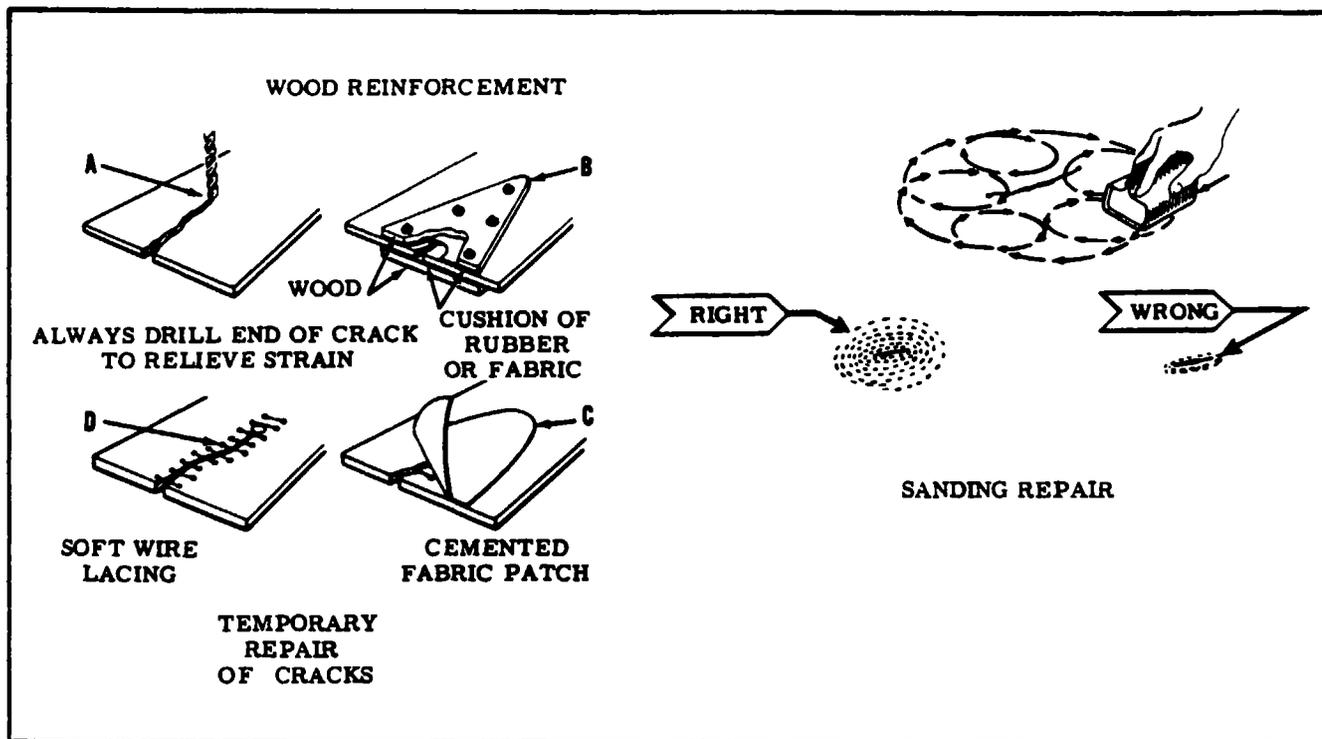

Figure 3-1. Repair of Windows and Windshield
**3-8. CRACKS. (Refer to figure 3-1.)**